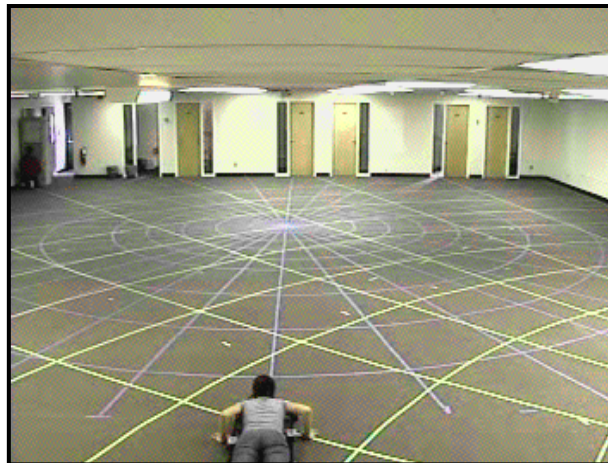

Figure 3: Sample Crawl Test Reference
1. Beginning outside the detection envelope (Figure 3), the tester will wait 20 seconds after the sensor resets.
2. Along the Arc test path at the 1-m (3-ft) marker, start crawling at 0.3 m/s (1 ft/s) (Figure 3).